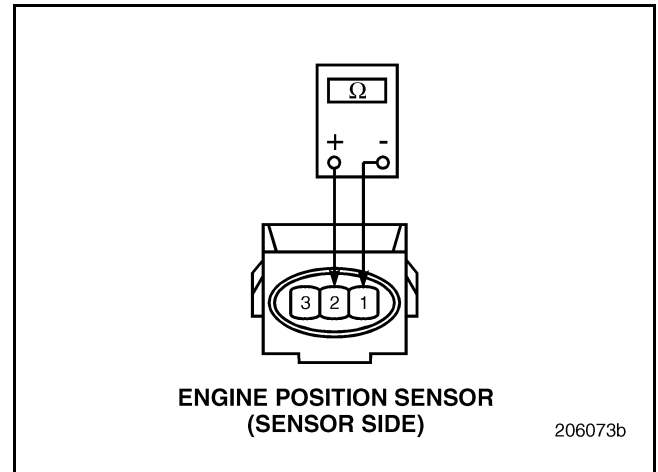

Figure 383
2. Disconnect the Engine Position (EP) Sensor harness connector.
3. Measure the resistance between sensor terminals 1 and 2 (see Figure 383).